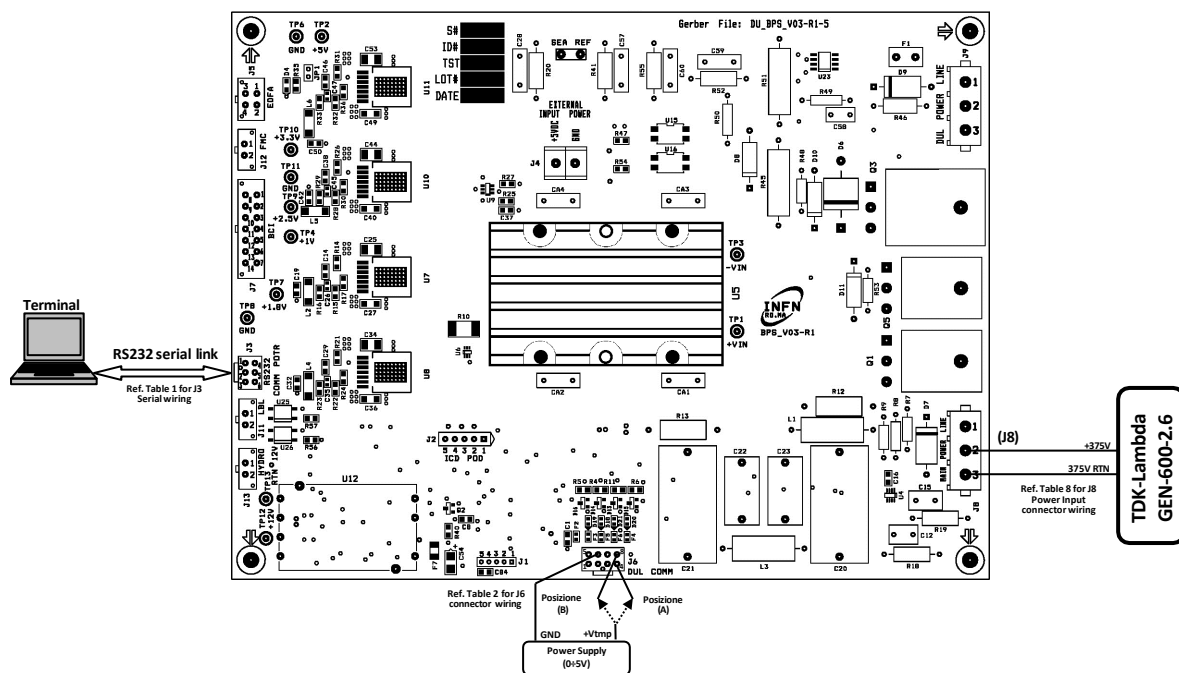

Fig. 12: Configuration for verifying temperature sensor signal acquisition
The test must be carried out according to the setup shown in Figure 12. The signals from the two temperature sensors are reproduced by the DC power supply set to provide a voltage of 0.7 V for the "TBOARD" sensor and 2.9 V for the "THEATSNK" sensor.
- 5) Apply a voltage of +0.7V between pin 6 (GND) and pin 4 of connector J6 (see Fig. 12 Position A).
- 2) Appliquer une tension de +2,9V entre le contact 6 (GND) et 8 du connecteur J6 (voir Fig. 12 Position B).